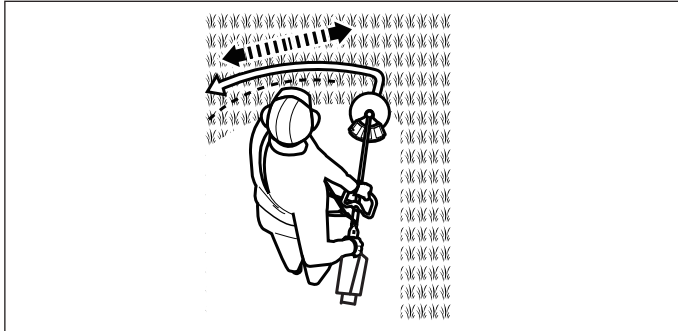

Fig. 14b
- 6). Move the product with slow and regular arc from left to right before moving it back to the starting position before trimming the next area. (See Fig. 14b)